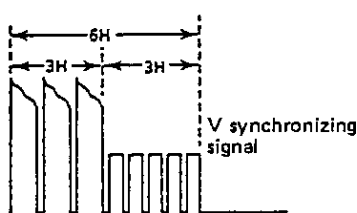

Figure 8-3-1
- 3) Set the synchronization slope of oscilloscope to (-), and adjust so that the interval between the trigger point and the V synchronizing signal becomes equal to 6H. (Figure 8-3-1)